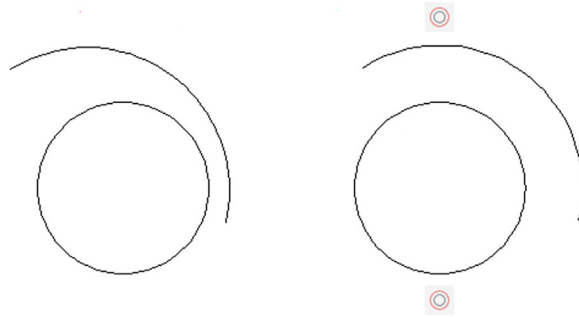

FIGURE 13.13
Step 1. Draw a circle, then an arc above it, as seen in Figure 13.13 (left).
Immediately after the selection of the arc, you see one or both snap to a concentric setting (their centers are the same), as seen in Figure 13.13 (right). Note that, if you were to select the arc first, the circle would adjust to it, not the other way around. Once again, selection order matters.